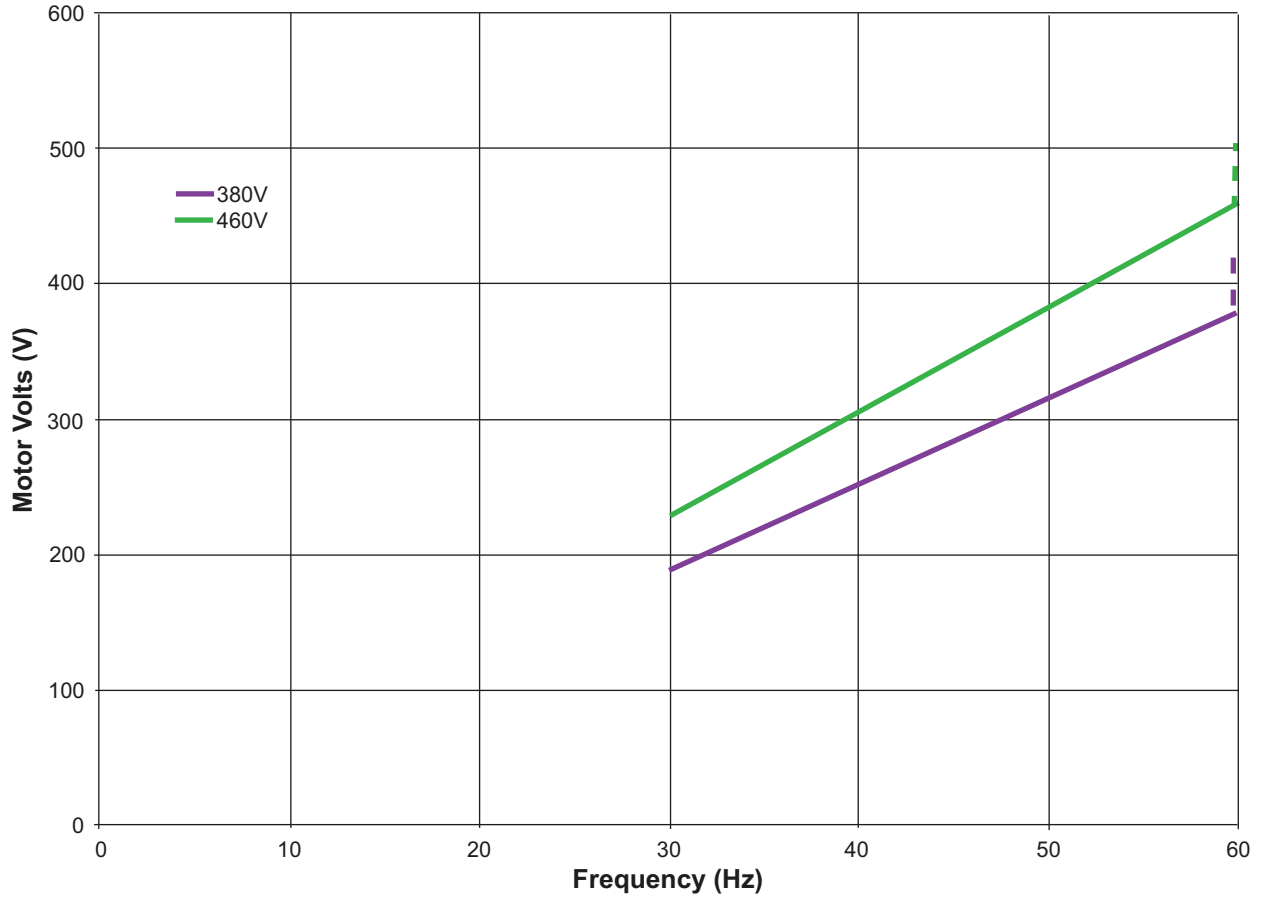

Fig. 31 — Sample Compressor Motor Voltage Curves
Figure 31 shows two sample voltage curves showing compressor motor voltage (V) versus operating speed